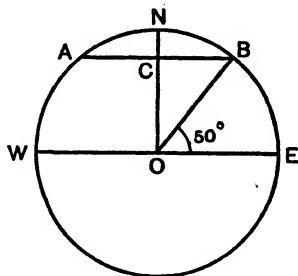

FIG. 40. DIAGRAM FOR EXAMPLE I
*Methods of working examples.*—Fig. 40 shows a section of the earth, passing through a place B in latitude  $50^\circ$ N.